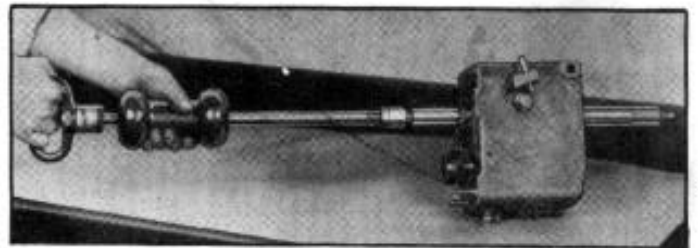

Figure 5--Removing Mainshaft and Rear Bearing Using Adapter Tool J-778 and Puller J-352.
27. Remove three cap screws (5) fastening main drive gear bearing retainer to transmission case and take out retainer (4) tapping with a soft hammer to free it from the case.
28. Remove mainshaft (10) and main drive gear assembly (6) by driving main shaft low and reverse gear (15) back on mainshaft far enough to remove the split lock ring (20). Use transmission gear drift J-786 which has a brass tip to prevent damage. At no time should mainshaft or main drive gear be pounded on the end when assembling or checking end play.
29. Pull mainshaft and rear bearing out of transmission case by means of adapter J-778 screwed into end of mainshaft and puller tool J-352, see Figure 5.